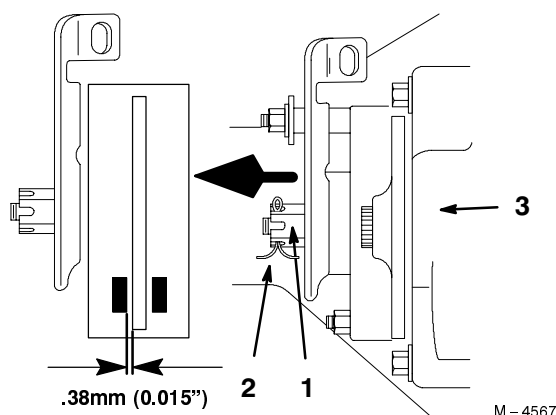

Figure 28
3. To adjust the brake remove the cotter pin and loosen the brake adjusting nut slightly (Fig. 28).
4. Carefully insert a .38 mm (0.015") feeler gauge between the outer brake pad and rotor disk (Fig. 28).